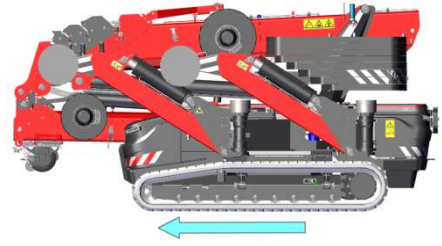

Figure 31
- The driving direction is indicated by the arrow in *figure 31*.